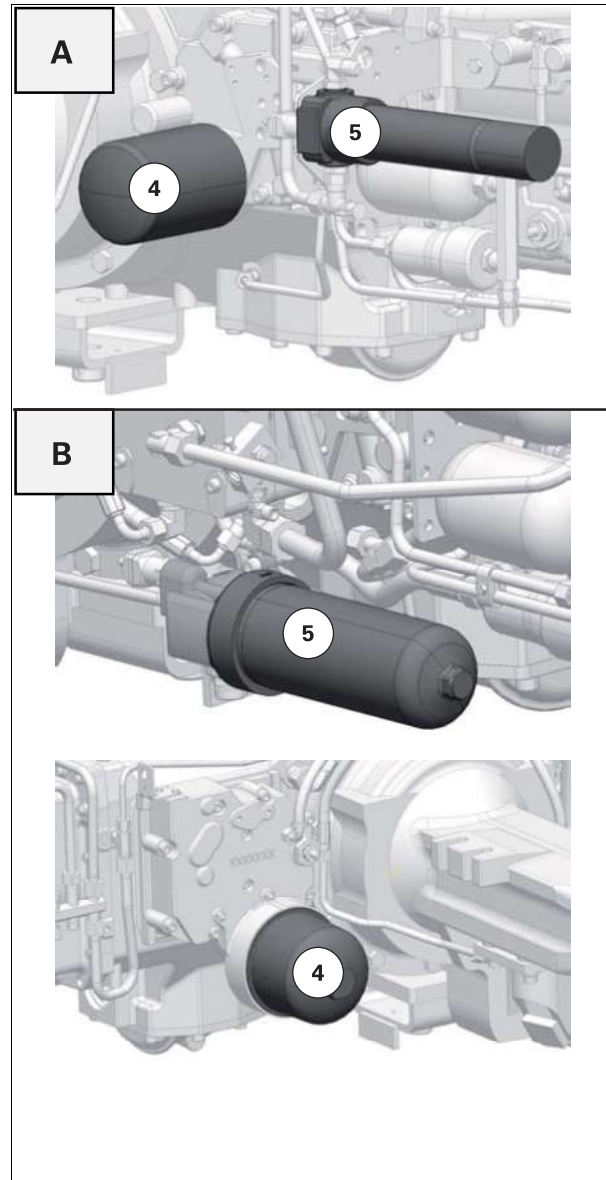

Fig. 1.
Change the 15-micron filter (5) fig. 1 every 400 hours.